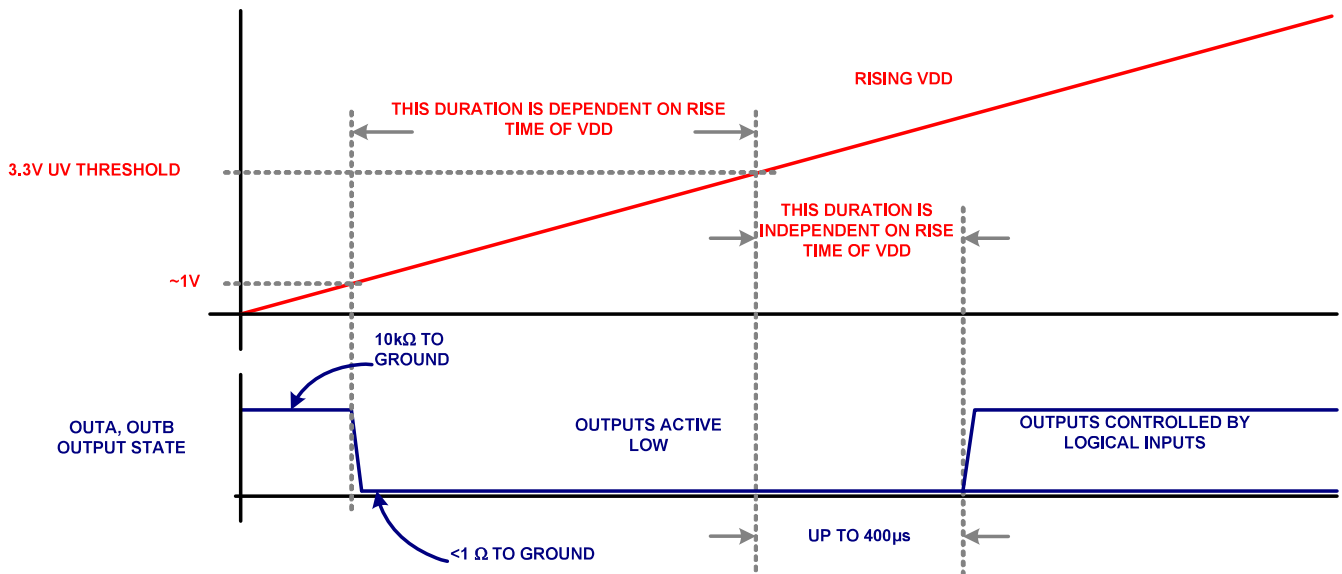

FIGURE 9. START-UP SEQUENCE
| V_{DD} Undervoltage Lock-out (Note 9, Figure 9) | V_{UV} | INA = INB = True (Note 10) | - | 3.3 | - | - | - | V |
- A 400 μs delay further inhibits the release of the output state when the UV positive going threshold is crossed. See Figure 9
ground, help to keep the gate voltage close to ground. When $\sim 1V < V_{DD} < UV$, both outputs are driven low while ignoring the logic inputs. This low state has the same current sinking capacity as during normal operation. This insures that the driven FETs are held off even if there is a switching voltage on the drains that can inject charge into the gates via the Miller capacitance. When $V_{DD} > UVLO$, and after a 400μs delay, the outputs now respond to the logic inputs. See Figure 9 for complete details.
| January 31, 2012 | FN7719.2 | (page 1) Figure 1 illustration improved. (page 1) Related literature added (AN1603). (page 1) Last paragraph of the product description is changed to better describe the improved turn on characteristics. (page 1) Features list is revised to improve readability and to add new product specific features. (page 3) Added parts for release in ordering information. (page 4) Abs Max Ratings ESD Ratings Charged Device Model changed from "1000" to "1500" (page 4) Note and figure references are added to the VDD Under-voltage lock-out parameter. (page 5) Note 9 is revised to more clearly describe the turn-on characteristics. (page 5) No load test conditions added to the rising and falling propagation matching parameters. (page 7) Figure 9 added to clearly define the startup characteristics. (page 8) The paragraphs of the Functional Description Overview describing the turn-on sequence is replaced by 3 paragraphs to more clearly describe the under voltage and turn-on and turn-off characteristics. (page 9) A new section is added to the application information describing how the drivers outputs can be paralleled. (pages 1..12) Various minor corrections to text for grammar and spelling. M8.15D POD on page 14 - Converted to new POD format. Removed table of dimensions and moved dimensions onto drawing. Added land pattern. |